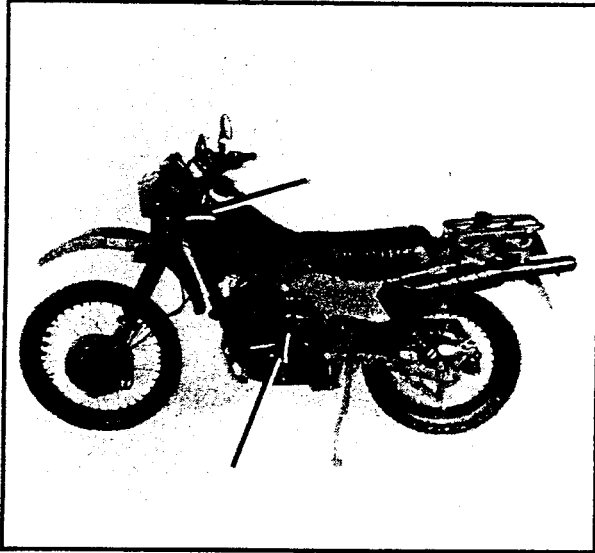

Figure 1-1. Motorcycle Identification
1. See Figures 1-1 and 1-2. The motorcycle is identified by the V.I.N. number stamped on the identification plate mounted on the L.H.S. of the steering head.